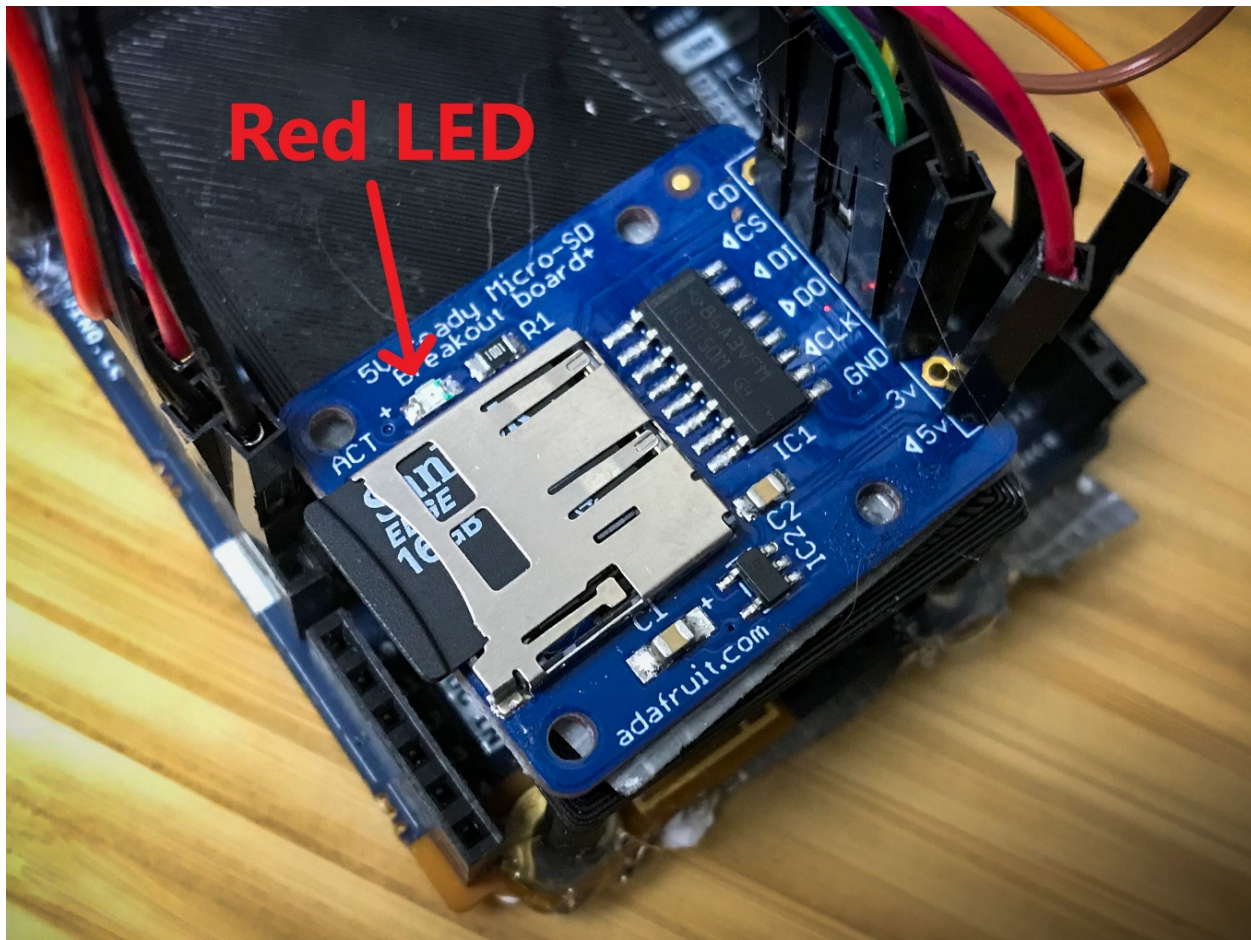

Figure 5 - Closeup of SD card data logger and the location of the red LED light
- If the red LED light on the SD card data logger (see Figure 5) is not flashing after the battery is plugged in, try gently shaking the Geiger counter. This can cause the Geiger counter to register a false "detection." If so, the LED will flash, revealing that the Geiger counter is indeed functioning. These false detections are logged on the SD card but do not actually contribute to the radiation dosage measurements.